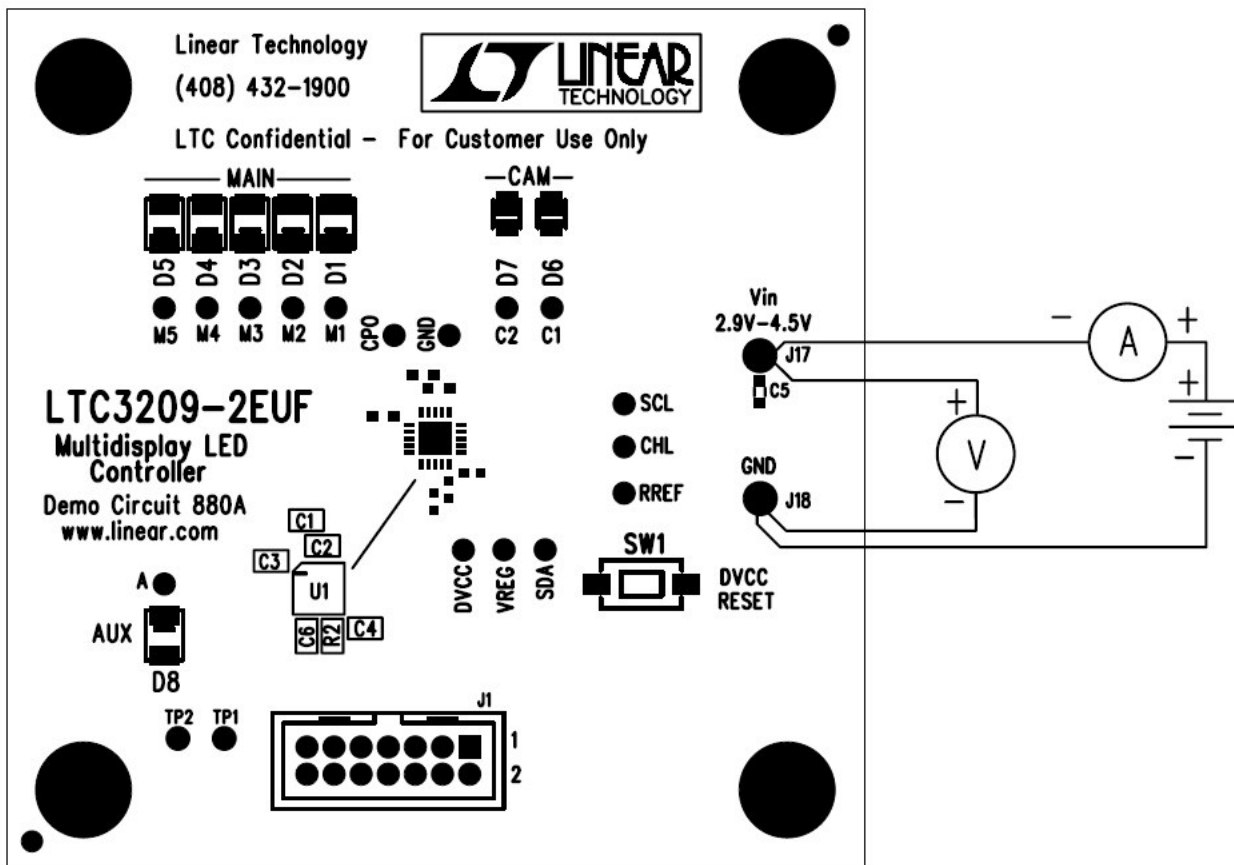

Figure 2. Proper Measurement Equipment Setup for DC880 and DC881 (DC880 shown)
4. Attach a 2.9 – 4.5V power source to the Vin and GND turrets of the DC880 or DC881 demo board as shown in Figure 2. This is the Vin power supply for the LTC3209-1 or LTC3209-2 (see application schematic). DC880 and DC881 have an extra 4.7uF de-coupling capacitor on Vin to help accommodate long lead lengths. The DC590 board gets its power from the USB cable.